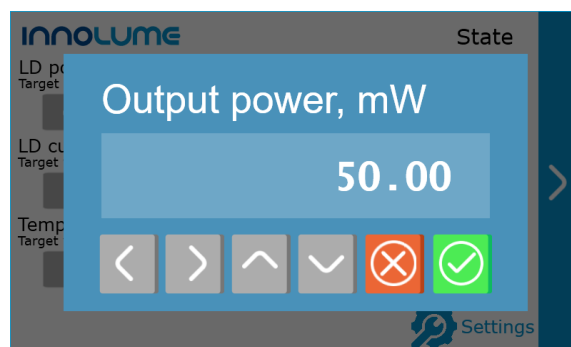

Figure 8 – Power settings
14. The user can run the laser in constant power mode. To do this, tap on “COP mode” button the button will light up green, than tap on power value (fig.8). Use the left and right arrows to select the digit to change, use the up and down arrows to change the value. Press  button to save the changes and exit menu. Press  button to exit menu without changes.